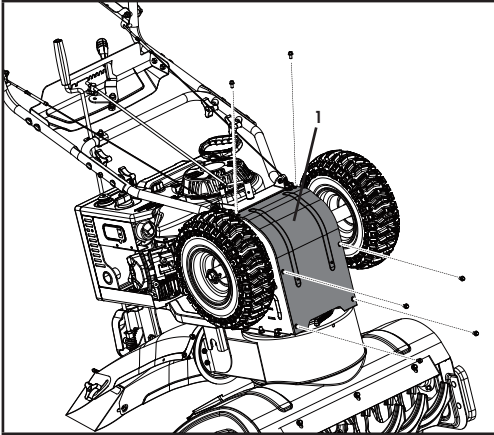

Figure 24
- Remove the base frame cover (1) from the underside of the snowblower by removing the six M6 × 16 screws which secure it (Fig 24).